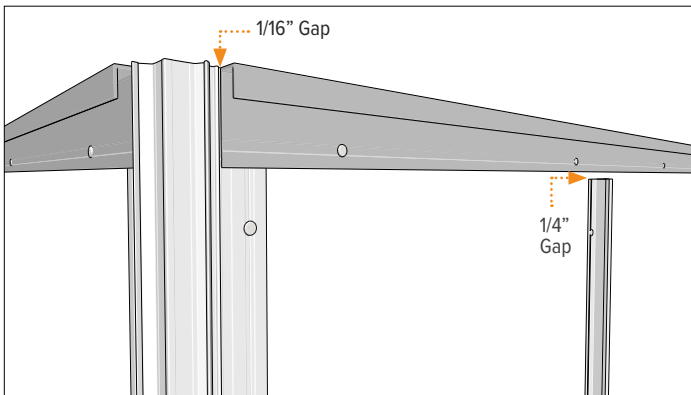

Figure 17.1
16. At the top of the wall use a one piece or two piece J. At the ends of the horizontal J overlap the vertical trims nailing flange with a 1/16" gap from the EZ.Bump®. Keep any midfield vertical back plates away from the horizontals J trims nailing flange by 1/4". (Figure 17.1).